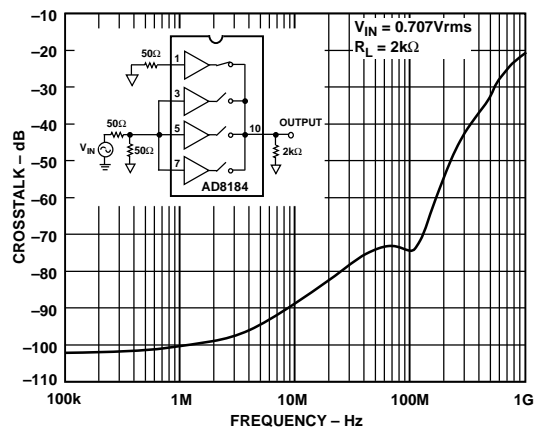

Figure 12. All-Hostile Crosstalk vs. Frequency
- ⁶Select an input that is not being driven (i.e., A0 and A1 are logic 0, IN0 is selected); drive all other inputs with V_{IN} = 0.707 V rms and monitor the output at f = 5 and 30 MHz. R_L = 2 kΩ (see Figure 12).